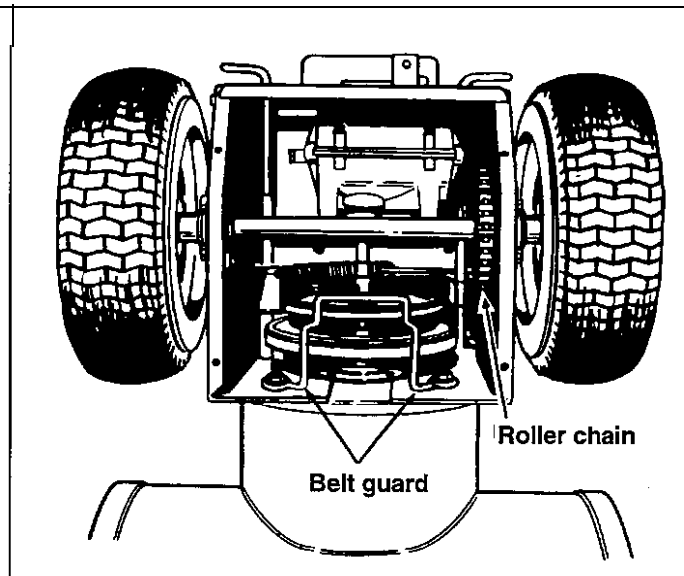
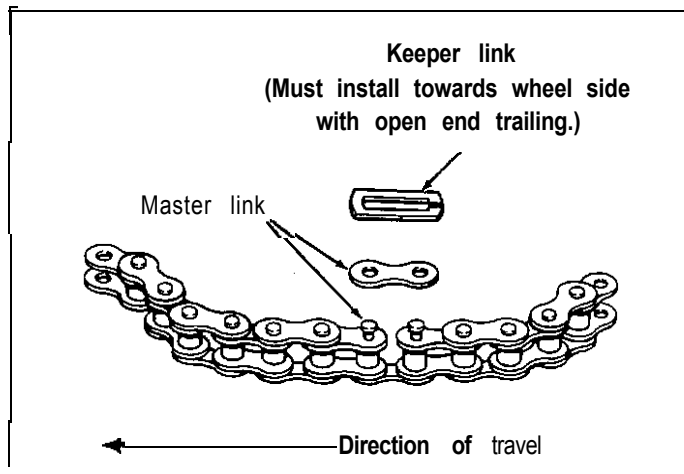

Figure 13. Lower Belt Guard
Figure 14. Roller Chain Master Link
6. See figure 13. Loosen nuts holding lower belt guard and slide guard away from belt.
4. Rotate the wheel (figure 13) to locate the roller chain master link (figure 14).
6. Install new chain and keeper link as shown in figure 14.